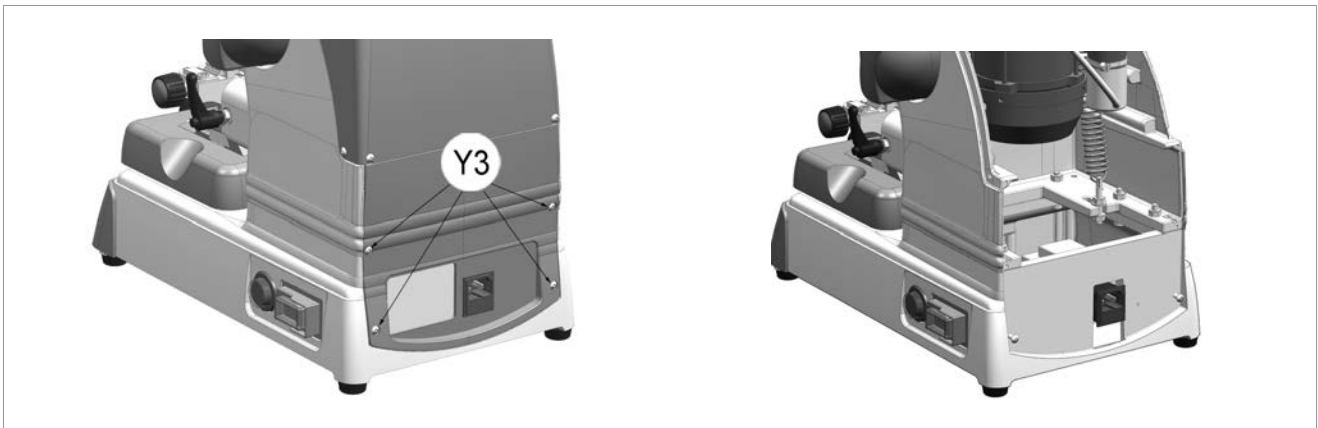

Fig. 63
- 3) Loosen the 4 screws (Y3) and remove the rear panel (Fig. 63).